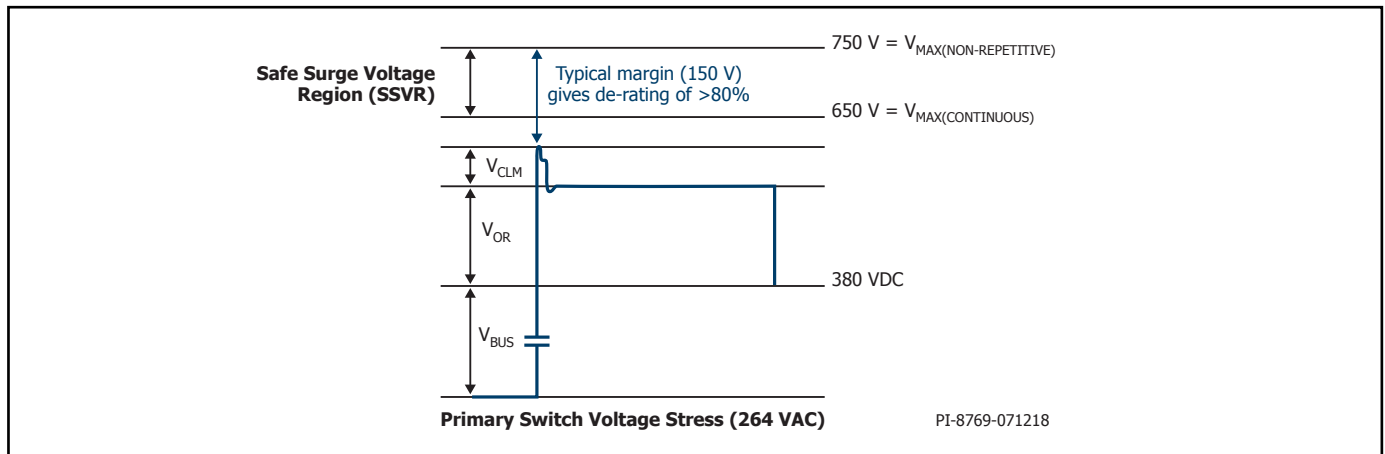

Figure 21. Peak Drain Voltage for 264 VAC Input Voltage (Applicable for LYT6078C, LYT6079C and LYT6070C).
4. A series connection of a small resistor and ceramic capacitor ($<22\ \text{pF}$) across the primary (Figure 21) or across the secondary winding ($<100\ \text{pF}$) reduces conducted and radiated EMI. Larger capacitor values may increase no-load consumption.
For a flyback converter configuration, typical voltage waveform at the DRAIN pin of the IC is shown in Figure 21.
In addition to $V_{BUS} + V_{OR}$, the drain also sees a large voltage spike at turn off that is caused by the energy stored in the leakage inductance of the primary winding. To keep the drain voltage from exceeding the rated maximum continuous drain voltage, a clamp circuit is needed across the primary winding. The forward recovery of the clamp diode will add a spike at the instant of turn-OFF of the primary switch. V_{CLM} in Figure 21 is the combined clamp voltage including the spike. The peak drain voltage of the primary switch is the total of V_{BUS} , V_{OR} and V_{CLM} .